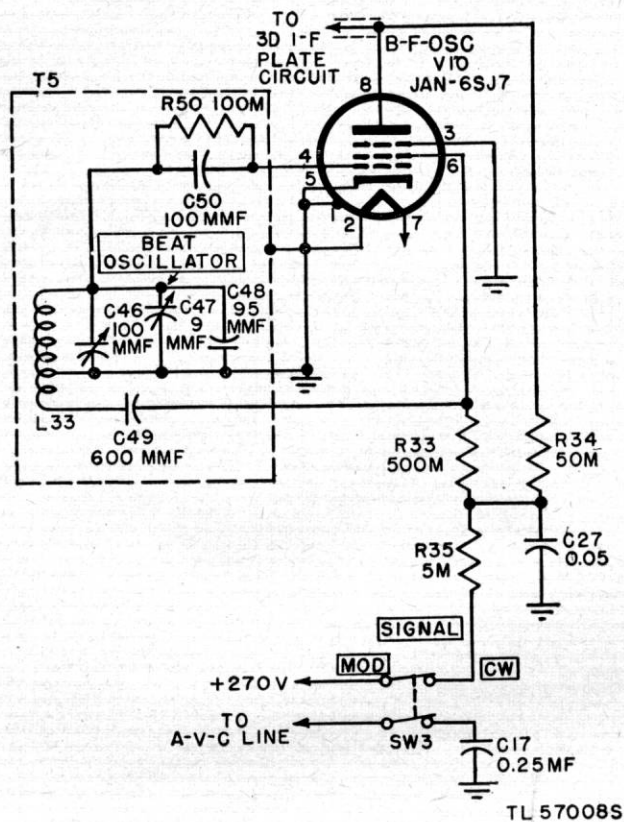

Figure 32. Radio Receiver BC-779-B, functional diagram of beat-frequency oscillator.
c. A-V-C OPERATION. With the AVC-MANUAL switch at AVC, the a-v-c control voltage is obtained from the junction of R52 and R19 and applied to the r-f stages and the first two i-f stages through the AVC-MANUAL switch and the i-f filter consisting of 1-meg resistor R52 and 0.05-mf paralleled capacitors C56 and C18B. This resistor-capacitor combination establishes the time constant of the a-v-c circuit. The grid resistors and capacitors in the controlled r-f and i-f stages also affect the time constant. The 2-meg resistor, R19, provides an interconnection between the avc and the fixed bias circuit. The SENSITIVITY control can therefore be used to adjust the gain of the receiver during a-v-c operation. This feature is very helpful in a noisy location. When avc is used for c-w code reception, a longer time constant is desirable and is secured by adding a 0.25-mf capacitor C17 in parallel with C56 and C18B. This additional capacitor is connected to one pole of the SIGNAL MOD-CW switch, SW3 (fig. 32), which controls the beat oscillator. Therefore, when the beat
66. Beat Frequency Oscillator (fig. 32)